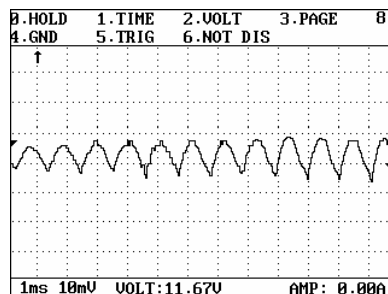

Fig.6-02
- Click [5] to select [5. Charging system analysis], the screen will display the function menu of charging system analysis as shown in Fig.6-02.
The waveform at the middle of the screen as shown in Fig.6-02 is the ripple of AC voltage during the discharging of battery. If the charging voltage is too low, it will result in insufficient battery capacity and thus result in poor start of engine or abnormal operation of vehicle electric device; if the charging voltage is too high, it will result in too high battery electrolyte and quicken the drop of it, shorten the work life of battery, and easily destroy electrical accessories.